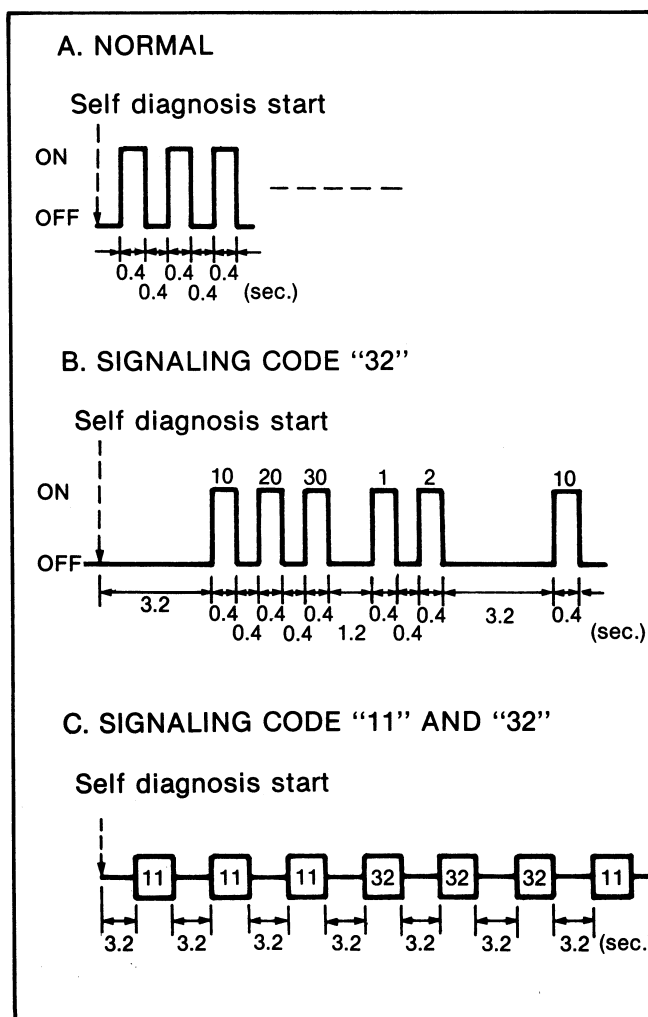

Figure 8. Self Diagnosis Display
- When no problem exists, the display flashes "1" repeatedly (figure 8-A).
- When a malfunction exists, the appropriate trouble code is displayed three times repeatedly (figure 8-B).
- When two or more trouble codes are registered, they are all displayed three times repeatedly, one at a time, starting with the lowest code number (figure 8-C).